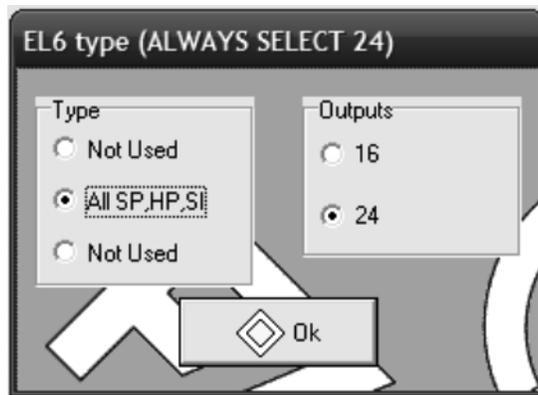

Figure 2.4: Selecting the EL6 Type
2. Click the red up arrow in the EL6 Software on your computer or press Ctrl-U on your computer's keyboard. The dialog box shown in figure 2.4 on page 9 appears.